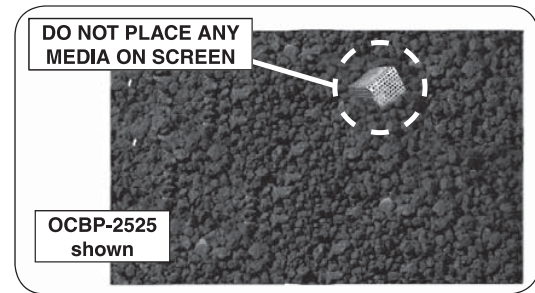
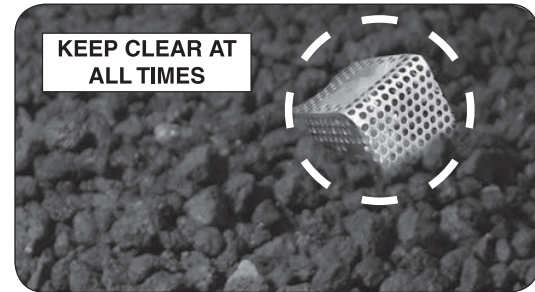

Fig. 24-1 Place lava
Fig. 24-2 Screen detail (if applicable)
1. Pour the 10 lb bag(s) of lava granules into the burner pan, evenly covering the burner pan assembly (with the exception of the screen). See Fig. 24-1 and Fig. 24-2.